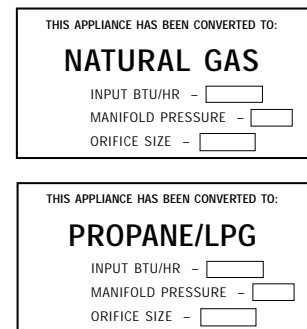

Figure 6
Step 7. Attach appropriate conversion kit label (*Figure 6*) to the rating plate on the appliance.